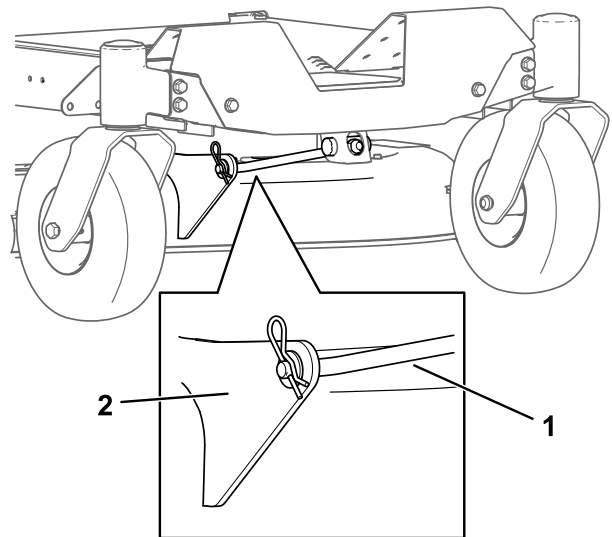

Figure 73
5. Remove the hairpin cotter from the front support rod, and remove the rod from the deck bracket (Figure 73).
8. Attach the front support rod to the mower deck with the clevis pin and hairpin cotter (Figure 73).